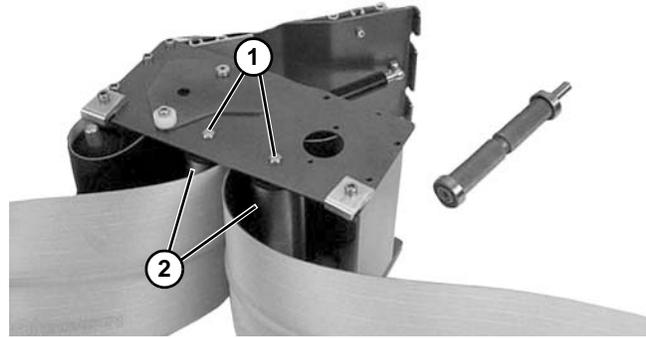

Figure 115
- b. For 5" (127 mm) or wider conveyor, depress both sides of each spring-loaded shaft (**Figure 115, item 1**). Remove pulleys (**Figure 115, item 2**).